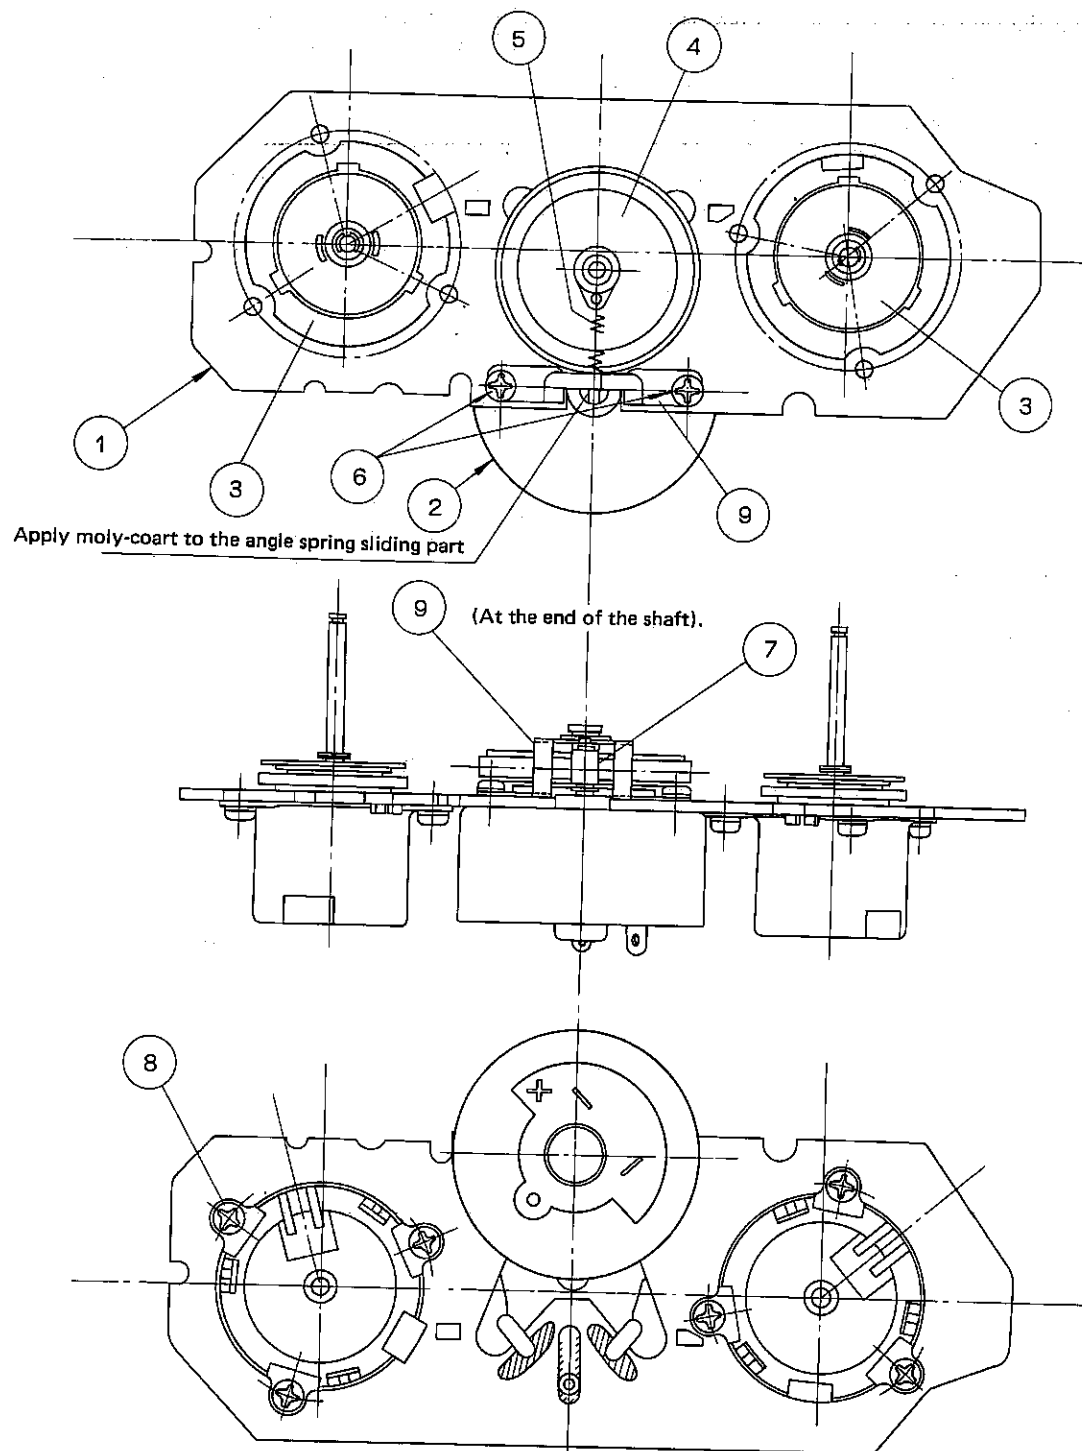

Figure 42.
1. Check that reel idler ④ is engaged with reel chassis ① and reel idler spring ⑤ with the reel idler.
2. Install a new reel motor with two screws (XBPSD30P-06J00) at a time so that the reel motor terminals and the spring hook angle may be directed as shown in Figure 42, taking care at the same time not to give damage to the reel motor pulley ⑦. (The motor would break if longer screws are used.)
3. Engage the reel idler pressing spring ⑤ with the spring hook angle ⑨.
1. Fasten the replacing brake unit with three screws (XBPSD30P04J00) in the direction show in Figure 42.